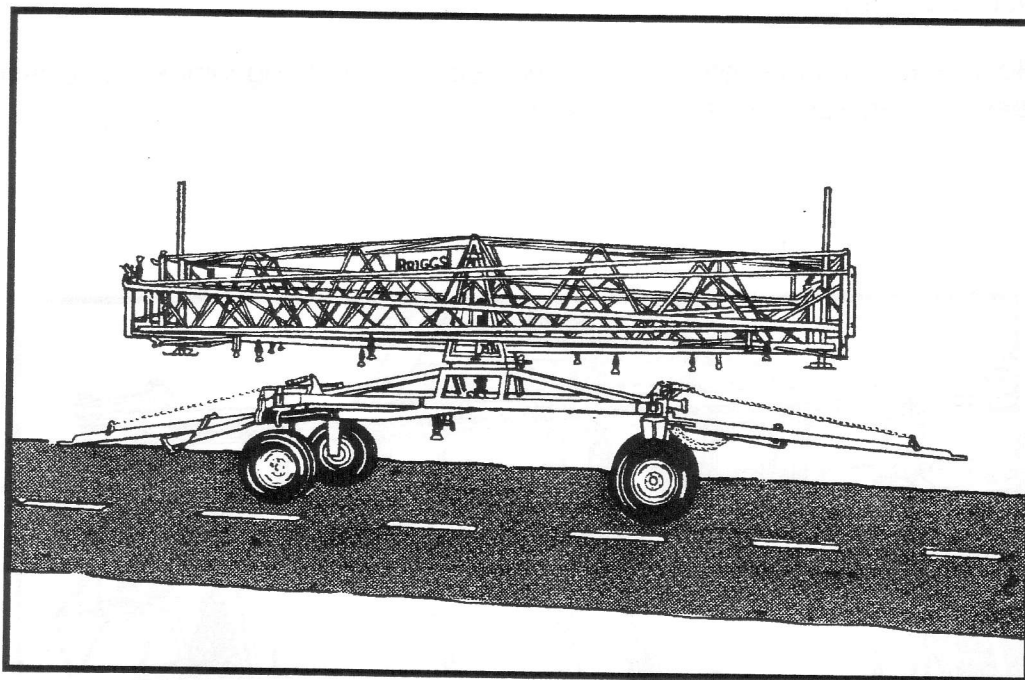

Fig 18
- 10: Remove the rotation locking pin, turn the Boom through 90° and lock in place. The Boom is now ready for transport (fig 18).